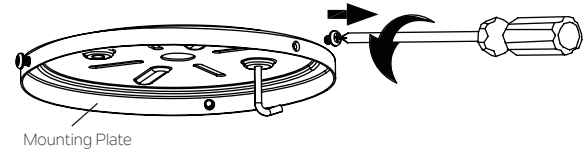

Fig. 10
**Step 1:** Remove one of the three screws from the mounting plate and keep for later use. Loosen the other two (do not remove). (Fig.10)